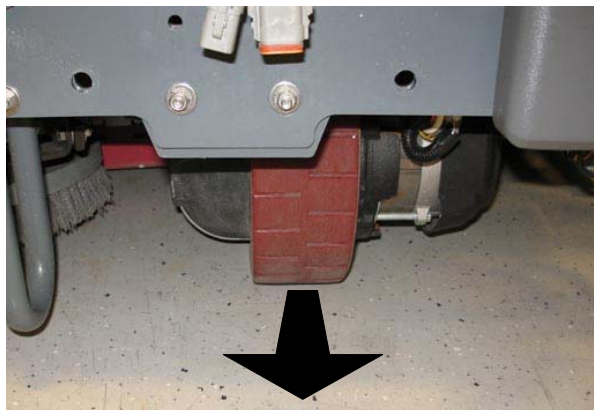

FIG. 14
30. Straighten the front wheel so it is pointing forward. (Fig. 14)